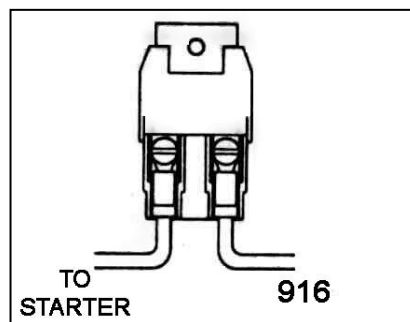

Figure 9-1 Maxi Fuse
9.0.1 With crimping tool, attach Maxi Fuse (**Figure 9-1**) onto end of ENGINE SECTION (single) 10 ga. wire #916 (red) AFTER having routed wire from the Fuse Panel to the Starter Solenoid. This serves as a fuse to protect the entire harness. DO NOT OMIT IT!
- 12.0.4** If you are using a GM starter, route the remainder of wire #916 from the Ammeter POSITIVE terminal to the Maxi Fuse terminal. Connect the other side of the Maxi Fuse (**Figure 9-1**) to the Starter Solenoid Battery (B+) terminal.